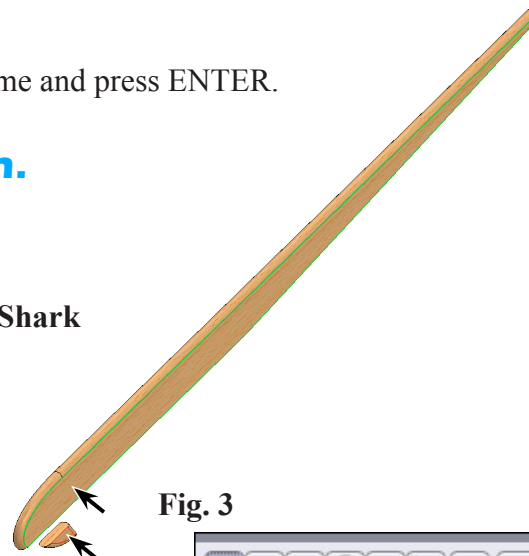

Fig. 3
- Step 2. Click **side face of Fuselage** and **side face of Shark Tooth**, **Fig. 3**.